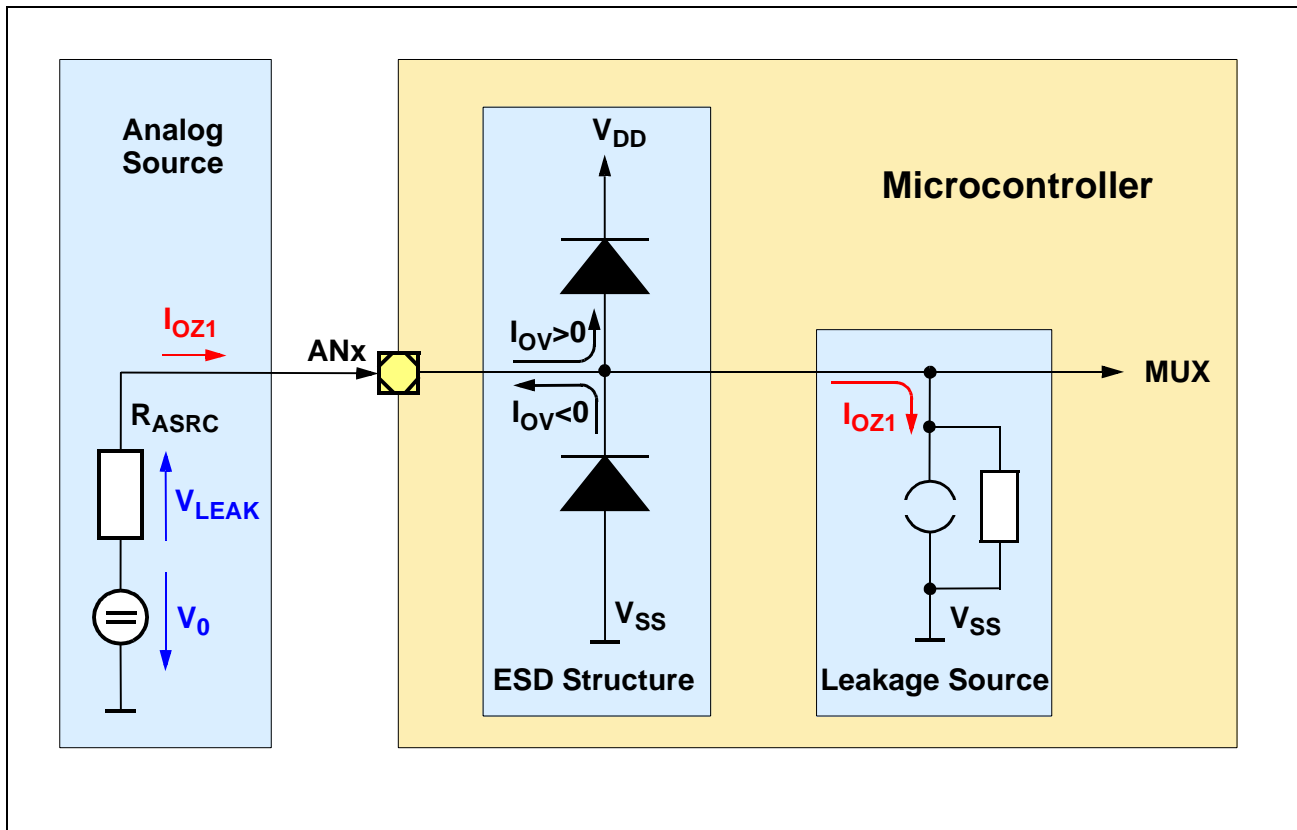

Figure 24 A/D Converter Input with ESD Structure and Leakage Source
Both, overload and leakage currents are specified in the Data Sheet. Consideration of overload and leakage currents can have an influence on the design of the external components of the analog source. **Figure 24** is a simplified electrical model with ESD structure (clamp diodes) and leakage current of an analog input.
*Note: The ESD structure of the reference voltage V_{AREF} and the reference ground V_{AGND} is the same as shown in the **Figure 24**.*
The maximum input leakage current of the A/D converter is specified in the Data Sheet in section 'DC Characteristics'. The input leakage current is the sum of all currents which can flow into or out of an input pin caused by parasitic effects of the input structure, see **Figure 24**.
In case of an overload condition on an A/D converter input pin, one of the clamp diodes becomes conductive. If $V_{AINx} > V_{DD} + 0.5\text{ V}$ then the clamp diode connected to V_{DD} begins to conduct. If $V_{AINx} < V_{SS} - 0.5\text{ V}$ then the clamp diode connected to V_{SS} begins to conduct; See Figure 24.